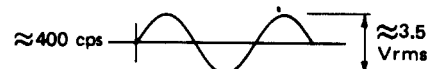

Figure 4-2. Test Point and Adjustable Resistor Locations
- (1) Connect the ac power cable between the 115-Vac receptacle, on the left side of the indicator, and the ac power source.
- (2) Set the POWER switch to 115 V position.
- (3) Set the LOAD INDICATOR/BATTERY CHECK switch to the momentary BATTERY CHECK position to determine if the internal 115 Vac to 35 Vdc power supply is functioning. Null meter should indicate a reading in the green band; if not, refer to paragraph 4-18.
- (4) Check voltages at TP-4, 5, and 6 with reference to case ground using multimeter. See Figure 4-2. Multimeter should indicate +20, 0, and +10 Vdc respectively; if not, refer to paragraph 4-19.
- (5) Set POWER switch to OFF position.
- (6) Disconnect the ac power cable at the ac power source.
- (7) Connect the dc power cable between the 24-Vdc receptacle on the left side of the indicator, and the dc power source.
- (8) Set POWER switch to 24-V position.
- (9) Set the LOAD INDICATOR/BATTERY CHECK switch to the momentary BATTERY CHECK position to determine if the external dc power source polarity is correct and the voltage is within the green band. If the pointer of the null meter swings to the yellow position of the meter, reverse the dc power source connections. If voltage is outside green band, refer to paragraph 4-20.
- (10) Check voltages at TP-4, 5, and 6 with reference to case ground using multimeter. See Figure 4-2. Multimeter should indicate +20, 0, and +10 Vdc, respectively; if not, refer to paragraph 4-19.
- (11) Adjust dc power source from 22 to 28 Volts while checking for stable +20 Vdc at TP-4; if not stable, refer to paragraph 4-21.
- (5) Preset the following adjustable resistors (see Figure 4-2) as indicated (center position is 10 to 12 turns from either end stop):
- (6) Set POWER switch to 115 Vat.
- (7) Check transformer T101 output at GRN and BLK terminals for CELL 1 at terminal board TB-1. See Figure 4-2. Multimeter should indicate approximately 3.5 Vac rms; if not, refer to paragraph 4-25.
- (8) Adjust oscilloscope as follows:
- (11) Disconnect load cell cable 1 (red) from cable connector adapter.
- (12) Connect load cell cable 2 (yellow) to cable connector adapter.
- (13) Set CELL SELECTOR to CELL 2.
- (14) Alternately adjust R2 (cell 2 phase potentiometer) then R102 (cell 2 zero set control) for minimum amplitude waveshape. See Figure 4-2. If unobtainable refer to paragraph 4-26.
- (15) Disconnect load cell cable 2 (yellow) from cable connector adapter.
- (16) Connect load cell cable 3 (blue) to cable connector adapter.
- (17) Set CELL SELECTOR to CELL 3.
- (18) Alternatively adjust R3 (cell 3 phase potentiometer) then R103 (cell 3 zero set control) for minimum amplitude waveshape. If unobtainable, refer to paragraph 4-26.
- (19) Disconnect load cell cable 3 (yellow) from cable connector adapter.
- (20) Connect load cell cable 1 (red) to cable connector adapter.
- (21) Set CELL SELECTOR to CELL 1.
- (22) With the null meter indicating NULL, set POUNDS switch thumbwheels to 0-0-1-50 (0.3% of full scale).
- (23) The null meter pointer should deflect to beginning of the green band. Adjust R51 (operational amplifier A2 and A3 gain potentiometer) if necessary.
- (24) Set POUNDS switch thumbwheels to 0-0-0-00.
- (28) Remove jumper lead from load cell simulator.